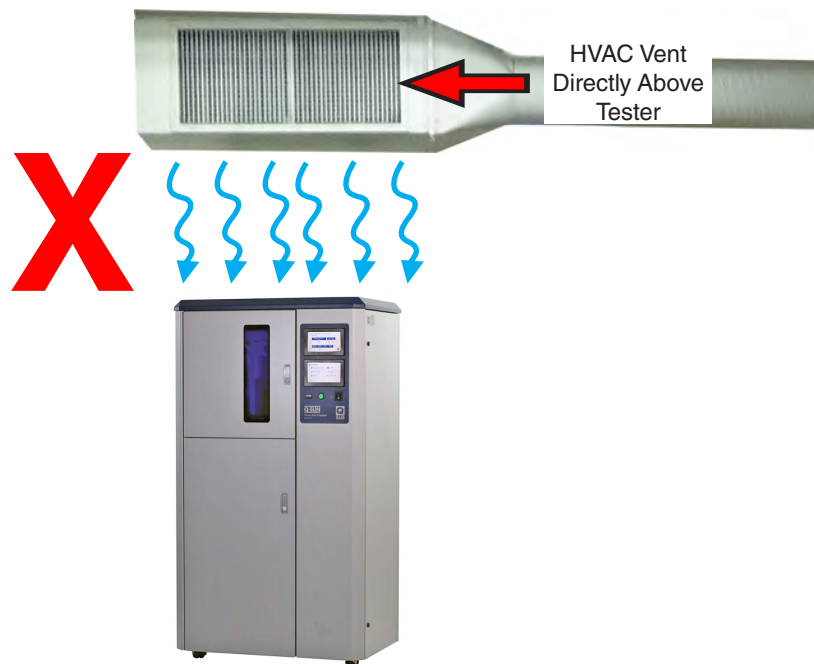

Figure 4.2d: Keep Tester Away from Sources of Hot or Cold Air
- Do not locate tester near sources of cold or hot air (Figure 4.2d).